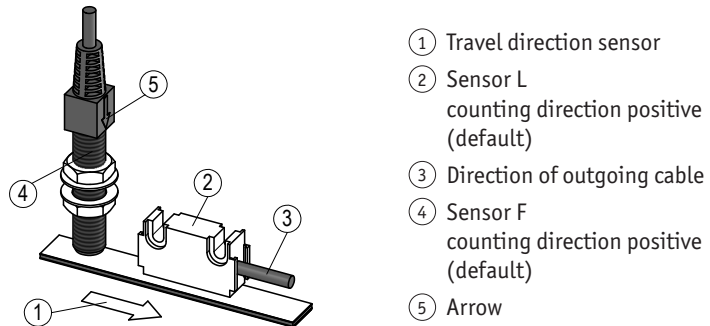

Fig. 7: Definition of counting direction
- ▶ Take care that the magnetic sensor is aligned correctly in order to ensure optimum sensing (see Fig. 7).